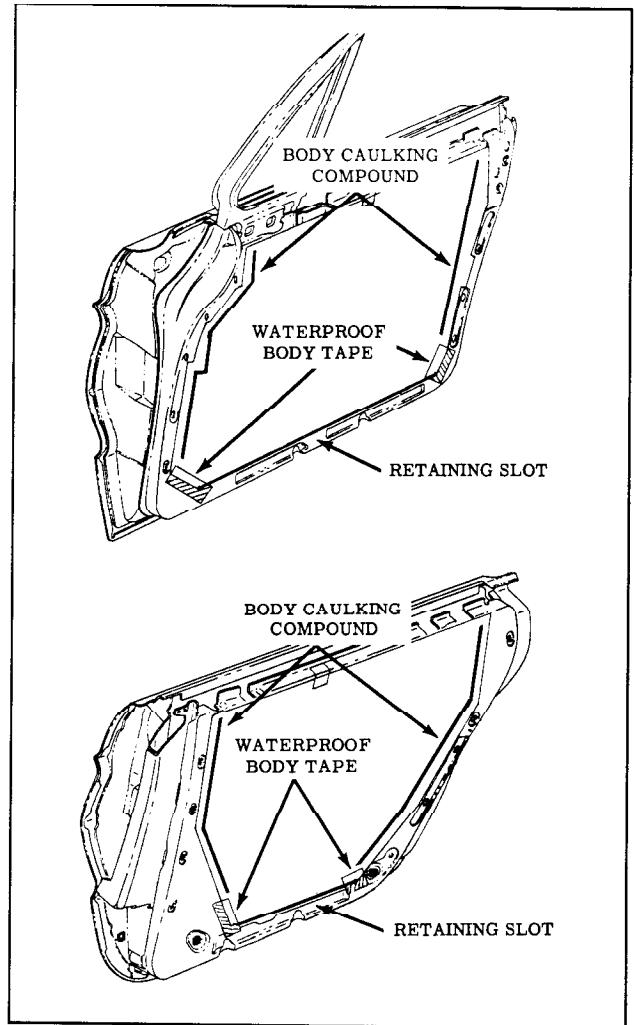

Fig. 17-21 Front and Rear Door Water Deflector Sealing
2. Remove strips of waterproof body tape securing lower corners of water deflector. (Fig. 17-21)
2. If new water deflector is to be installed, use old water deflector as a template, trim new deflector to proper size and cut holes for door inside hardware. If old sealer does not effect a satisfactory seal, clean off old cement from door inner panel and apply a continuous bead of door caulking compound (approximately 3/16" diameter) to door inner panel along line contacted by front and rear edges of water deflector. (Fig. 17-21)
5. Seal lower corners of deflector with 2" or 2-1/2" waterproof body sealing tape. (Fig. 17-21)